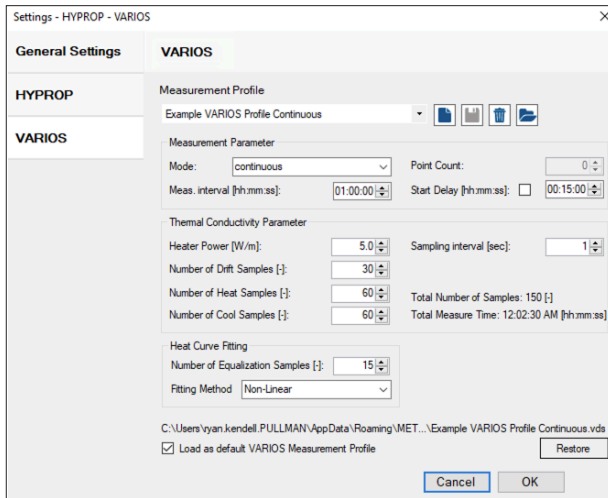

Figure 26 Example VARIOS continuous measurement profile
- VARIOS continuous measurement mode (Figure 26)